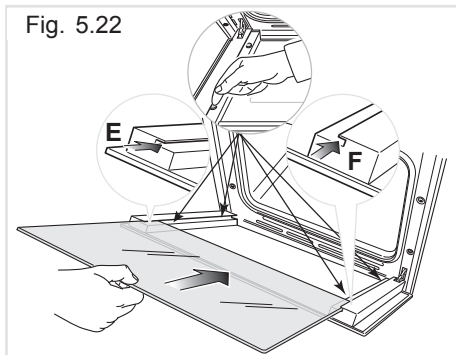
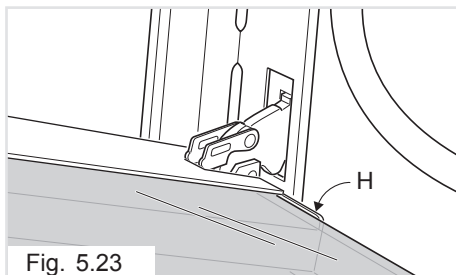

Fig. 5.22
Fig. 5.23
**IMPORTANT:** It is advisable, while refitting the glass, to keep pressed in position the four rubber pads "D", by a finger, to avoid breakage or slippage of the rubber pads themselves (fig. 5.22).
- Insert the inner pane in the left "E" and right "F" side guides (fig. 5.22) and gently let it slide up to the retainers "H" (fig. 5.23).